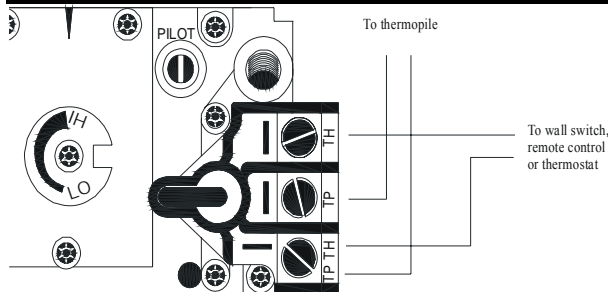

Figure 12 – Gas Valve Connections
2. Connect the wires to the gas valve (see figure 12 & 13).